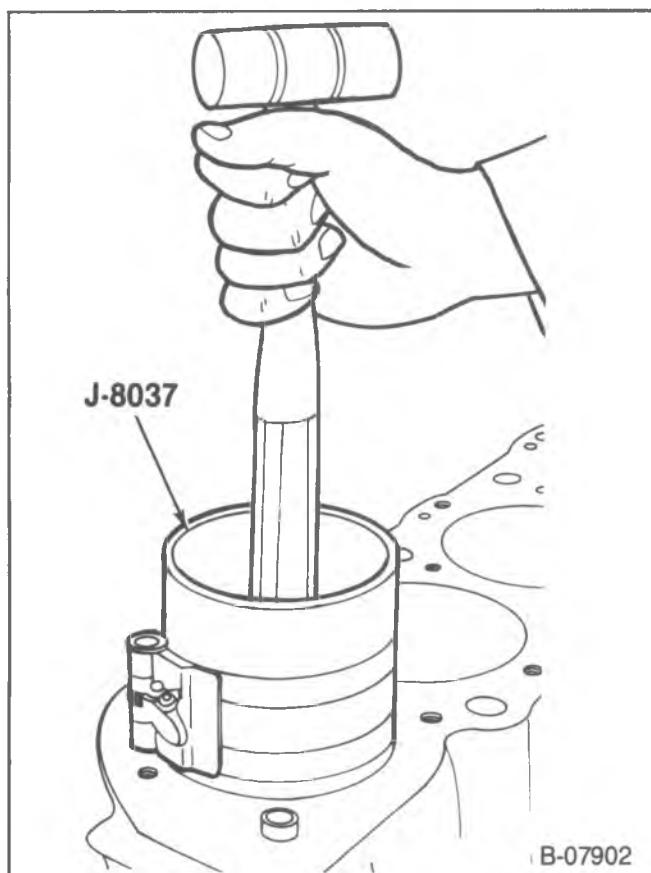

Figure 64—Installing the Piston
- Without disturbing the ring end gap location, install J-8037 over the piston (figure 64).